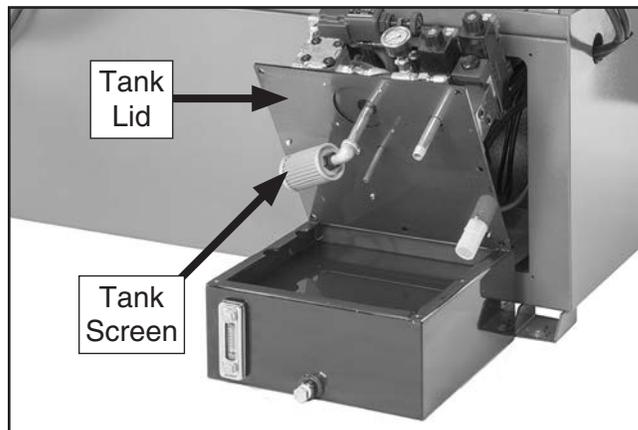

Figure 71. Hydraulic fluid tank lid removed.
7. Open tank by removing (8) hex bolts that secure lid (see **Figure 71**).
8. Clean tank and tank screen (see **Figure 71**) with mineral spirits. Wipe out as much residual fluid and contaminants from tank as possible. Allow tank and tank screen to air dry.